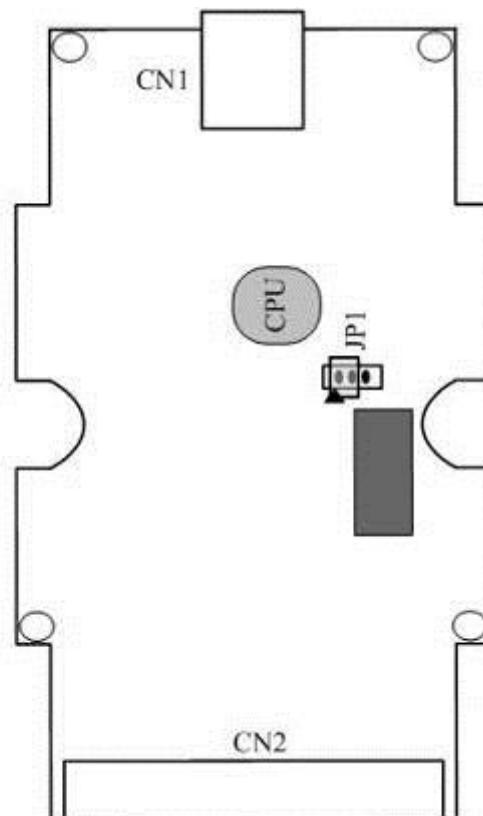

Figure 2-8: Firmware Updating
- (1) Set the jumper (JP1) to the firmware updating position as Figure 2-8 and reboot I-7567. Then I-7567 will work in the "Firmware Update Mode". In this mode, users can update the firmware of I-7567 module via USB and the I-7567 will become a "USB Mass Storage" device shown as Figure 2-9.